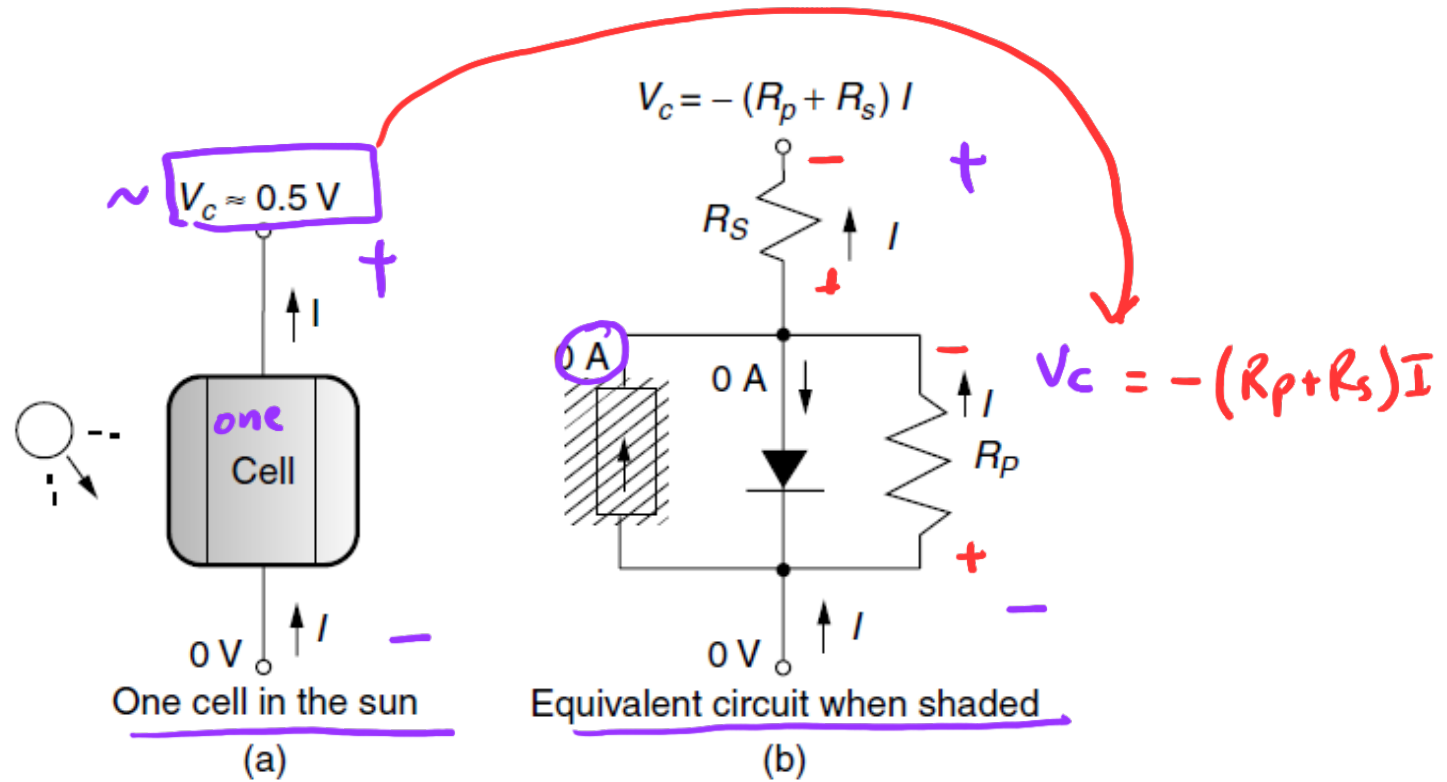

Figure 8.40
- Figure 8.40 shows a typical situation. In Fig. 8.40a a solar cell in full sun operating in its normal range *contributes* about 0.5 V to the voltage output of the module, but in the equivalent circuit shown in 8.40b a shaded cell experiences a *drop* as current is diverted through the parallel and series resistances.